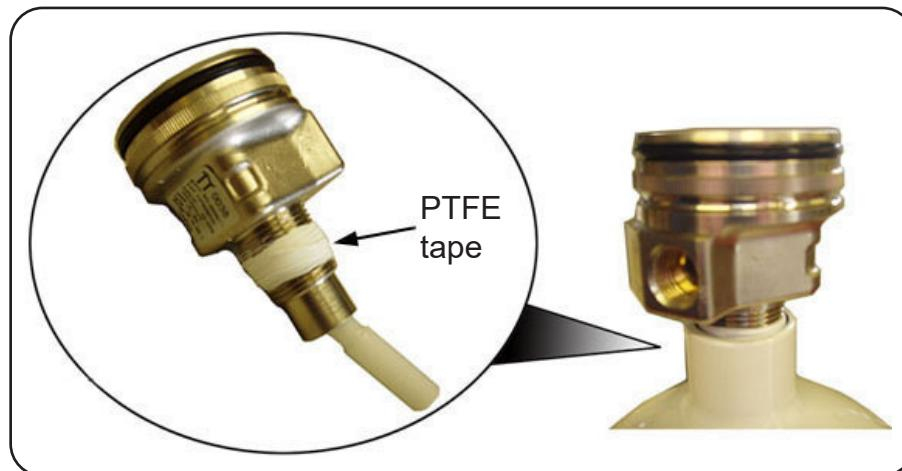

FIGURE 507
- (a) Prior to the cylinder adaptor being fitted to the bare cylinder, apply the correct number of turns of PTFE tape, TABLE 503. The tape must be applied to the threads of the cylinder adaptor. Refer to FIGURE 507.